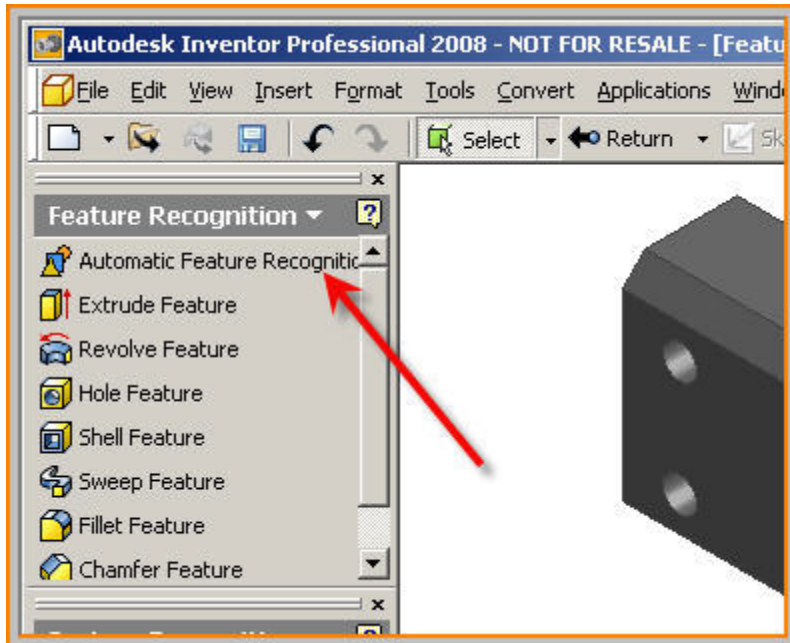
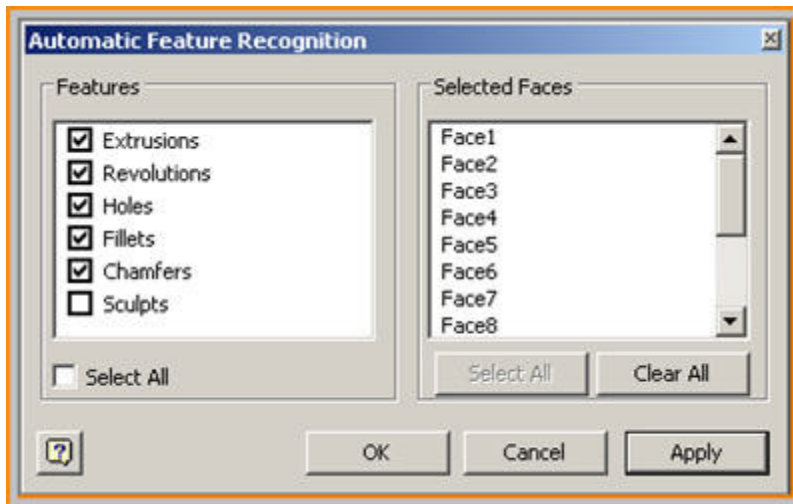
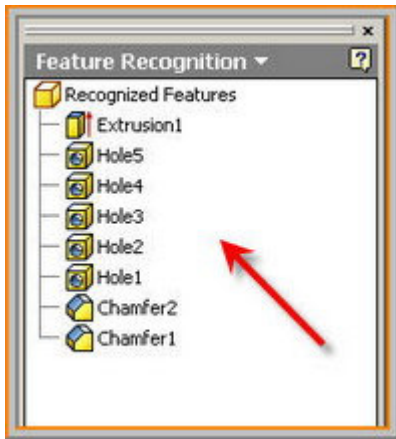

Figure 7
Figure 8
Figure 9
Step 9: Now click on Yes and you will be taken into Automatic Feature Recognition module as shown in Figure 7. Click on Automatic Feature Recognition and you will be prompted via another window, shown in figure 8. Here you need to select the type of feature, which can be automatically recognized along with faces. Once all are recognized, they are individually displayed in the browser bar (Feature Recognition) as shown in Figure 9.